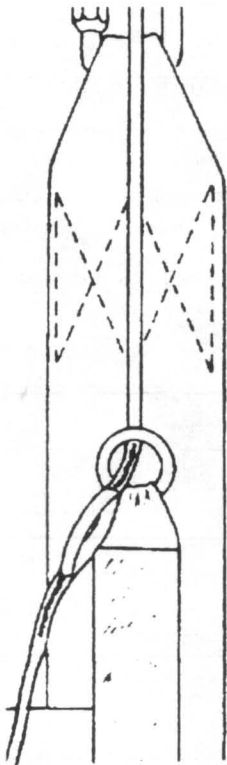
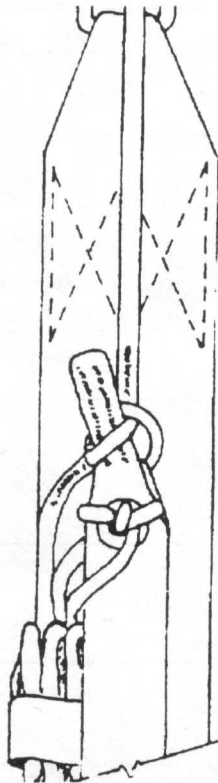

FIG. 1
FIG. 2
- 4) Set the deployment brakes on each side by pulling the control line down through the guide ring until the brake loop just passes through the guide ring (FIG. 1). Insert the stiffened upper portion of the toggle through the loop and pull it back up tightly against the ring guide. "S"-fold the slack between the toggle and the brake-set, and stow it in the velcro loop provided, then mate the velcro on the toggle with the velcro on the riser (FIG. 2).